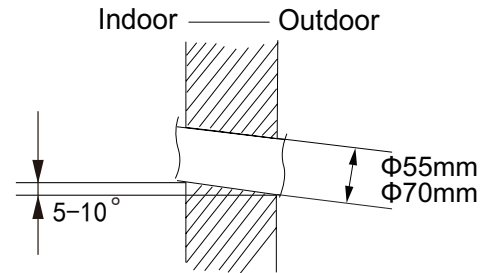

Fig. 2
- (2) When installation is finished, pull the mounting plate by hand to confirm whether it is fixed tightly. The force distribution among all screws should be uniform.
- (3) Drill a piping hole with a diameter of $\Phi 55\text{mm}$ or $\Phi 70\text{mm}$ at the selected outlet pipe position. To ensure smooth drainage, slant the piping hole on the wall slightly downward toward the outdoor side with a gradient of $5-10^\circ$. (As shown in Fig. 2)